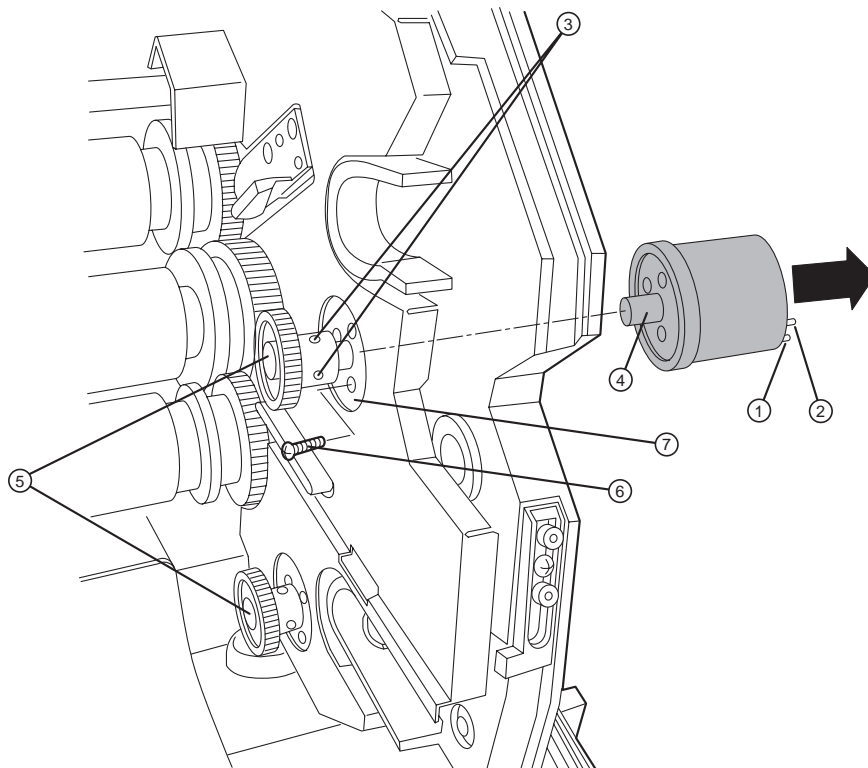

Figure 4-44 Removing the supply cassette A or B rewind motors.
2. Remove the red wire from Pin 1 and the black wire from Pin 2 at the end of the supply motor (A or B) being replaced. Refer to Figure 4-44.
- ①—Red pin. ②—Black pin. ③—Two 1/16" allen screws. ④—Motor shaft.
⑤—Gear. ⑥—Three 3/16" hex screws. ⑦—Bracket.
3. Remove the two (2) 1/4" hex screws securing the motor to the engine side casting.
4. Loosen the two (2) 1/16" allen screws securing the gear to the motor shaft. Refer to Figure 4-44.
5. Remove the gear from the motor shaft. Refer to Figure 4-44.
6. Using a 3/16" nut driver, remove the three hex screws securing the motor bracket to the motor. Refer to Figure 4-44.